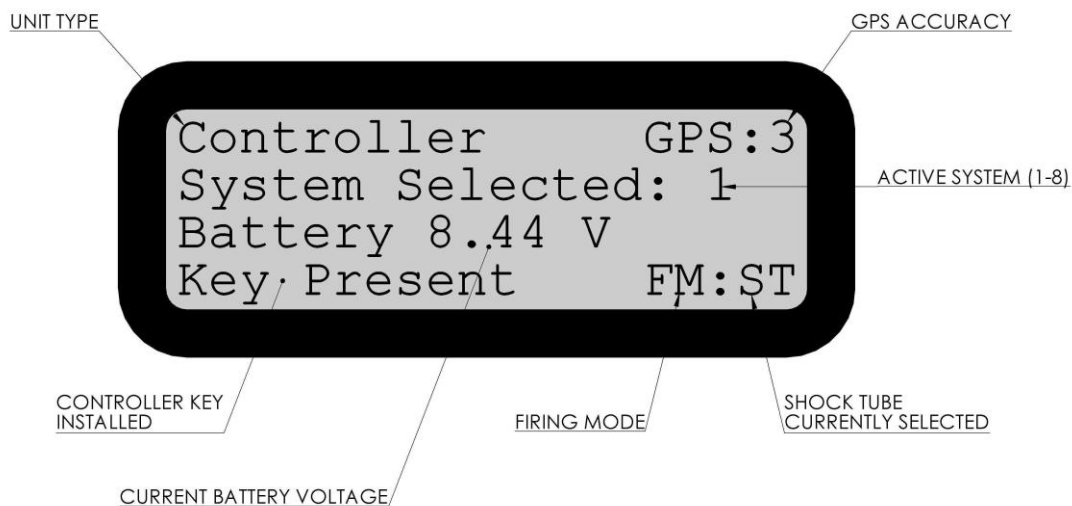

Figure 2-5 Controller Unit Default Screen
2.7.3. When the Controller is turned on by pressing the 'ON' switch, The Controller goes through a series of self-tests. Once the self-testing is complete, The Controller will show the default screen of Figure 2-5.